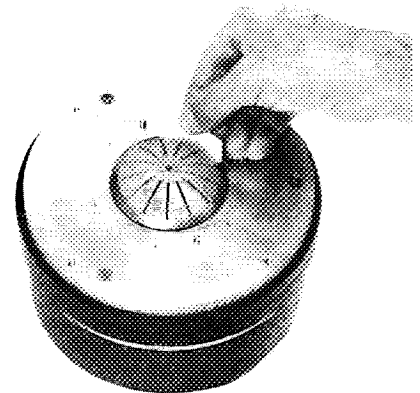

Figure 11. Cleaning Voice Coil Gap
6. Clean foreign material from voice coil gap with a short strip of masking tape 1-inch wide. Fold tape to form a strip with adhesive exposed on both sides. Insert edges of folded tape into gap to full depth, and wipe clean completely around circular perimeter (see Figure 11). Repeat cleaning procedure with fresh tape until tape is clean when withdrawn. Visually inspect magnetic gap to make sure it is free of foreign matter; repeat cleaning procedure as required.
4. Clean foreign material from the voice coil gap using the method shown in Figure 11, above.